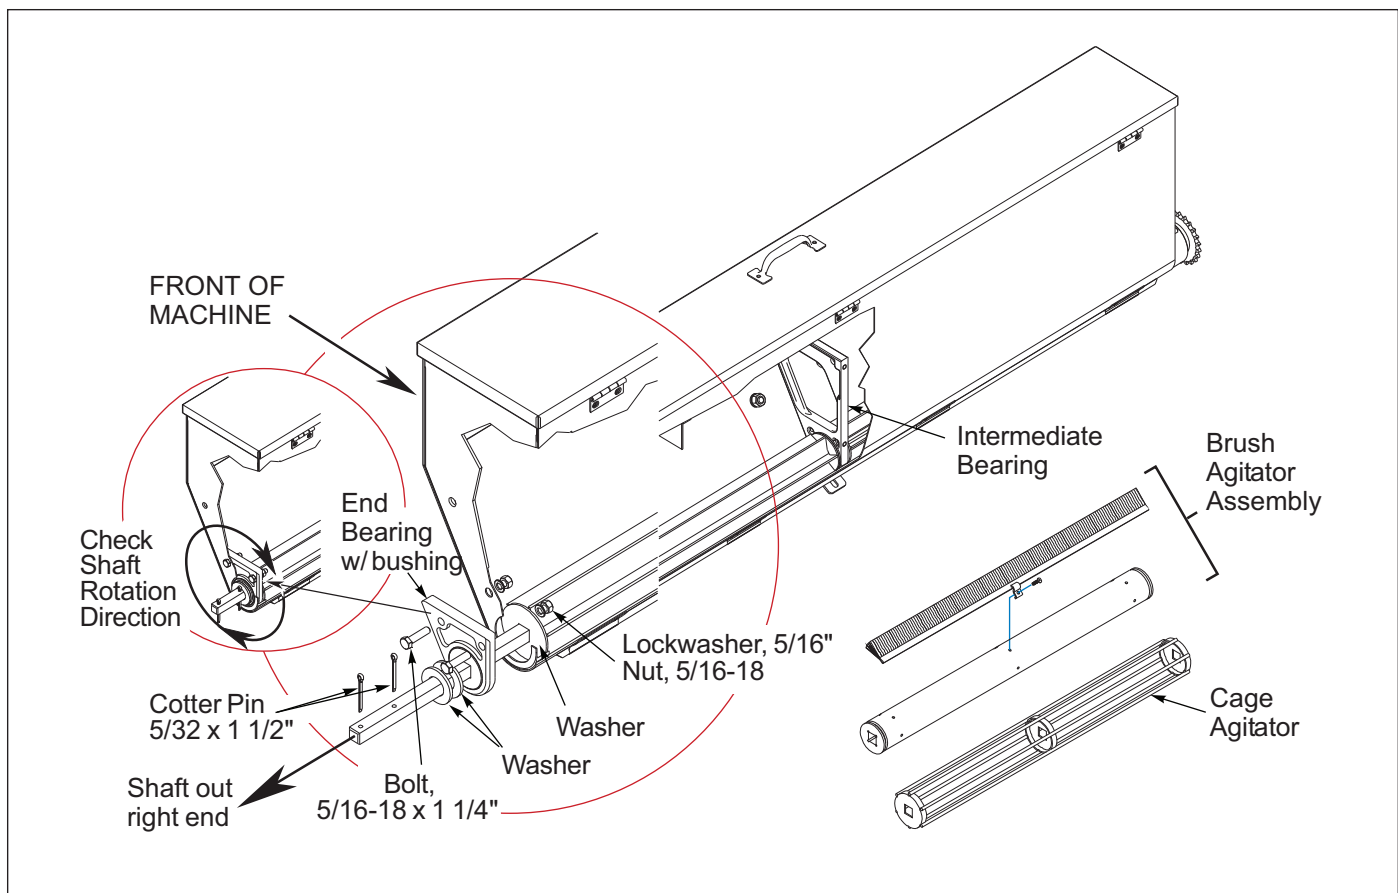

Figure 2-2: Agitators
1. Remove two 5/16-18 x 1-1/4 bolts (inside the box) which hold bearing on the right end of the right seedbox. **See Figure 2-2.**